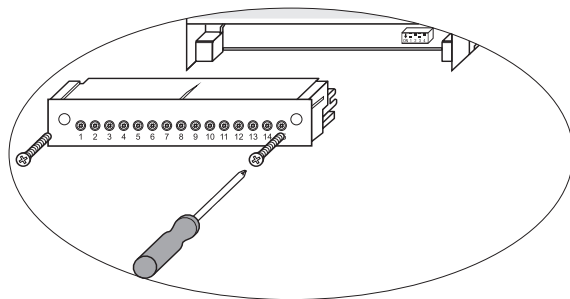

Fig. 12
- Remove the lower and upper terminal strips. Unscrew the left and right fixing screws. **Fig. 12**